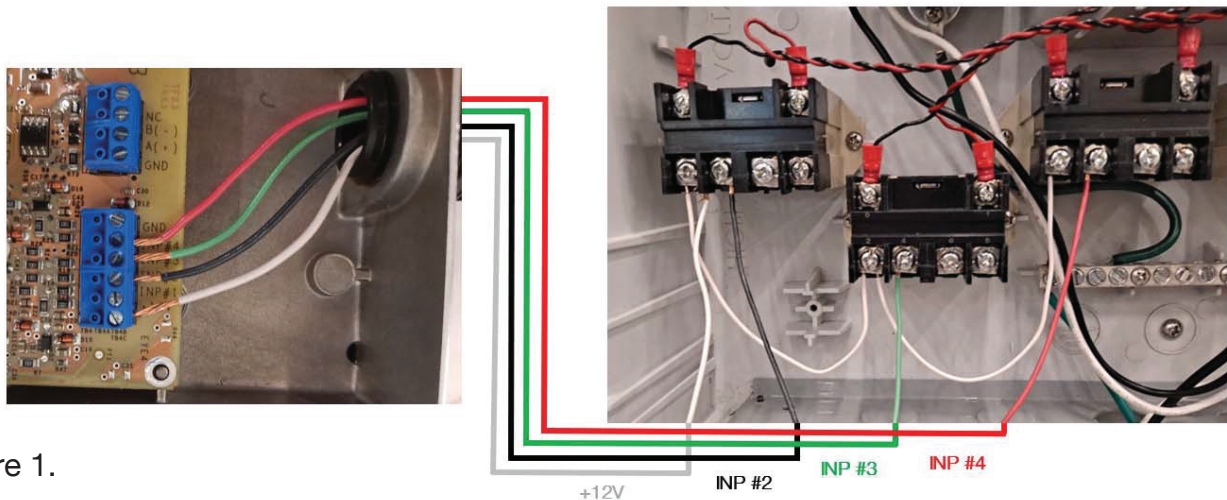

Figure 1.
**NOTE:** A generic wiring diagram is provided in Figure 1 for connecting the Power Defender 165/225/270 to a “System Level Controller”. The concept can be applied to a solar system or another type of control system.